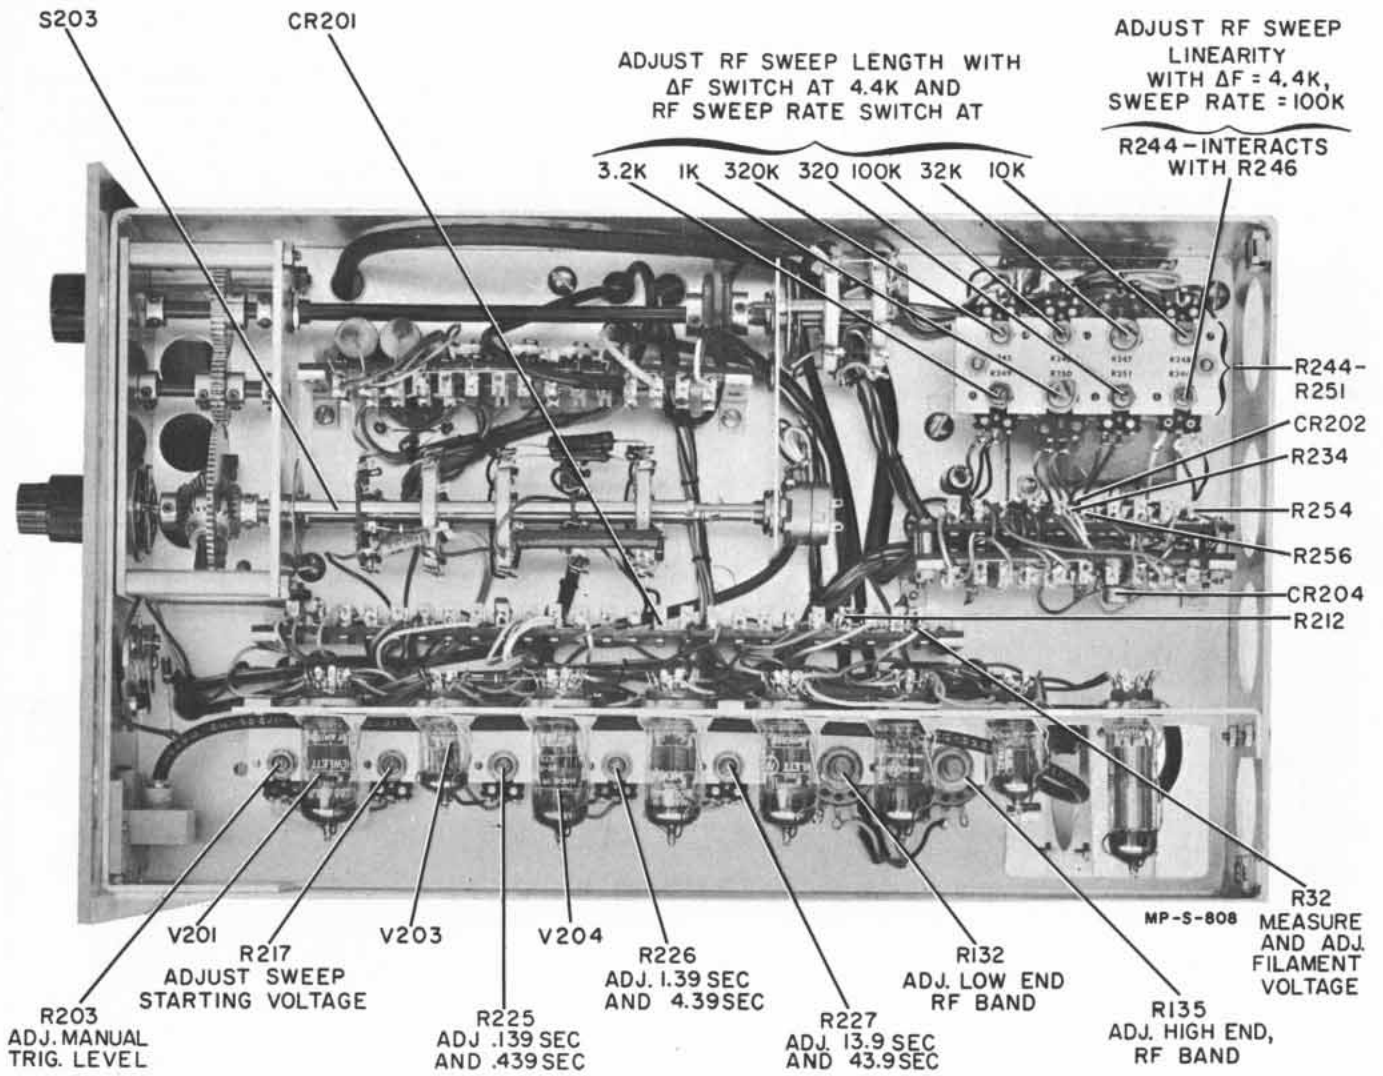

Figure 4-15. Model 686C Right Side View
The trigger bias should be adjusted with R203 (see figure 4-15). The equipment should be connected as in figure 4-2. Set the Δ FREQUENCY = 4.4K and SWEEP RATE to 3.2 kmc/sec. Adjust one wavemeter
1) Check filament voltage for V103, V105, V107, V109, V202, V207, V208 and V302. Place an ac vtm across R32 (see right side view, figure 4-15). No 6.3 volts ac, replace R35.